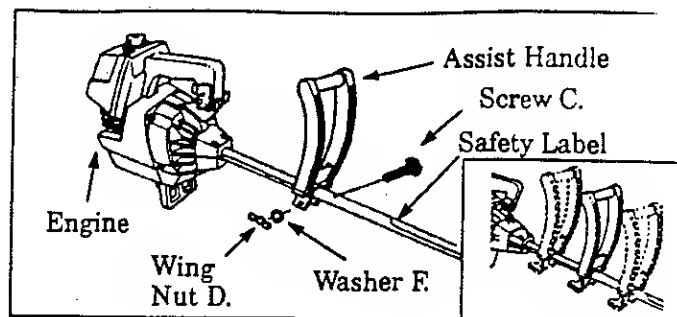

Figure 3
- Align the Assist Handle above the Safety Label and below the Engine. Figure 3.
- Insert the Assist Handle Screw "C." through the new hole in the Assist Handle. Figure 3.
CAUTION: When adjusting the Assist Handle for comfort, be sure that the Assist Handle remains between the Engine and the Safety Label on Drive Shaft Housing. Figure 3.
- Adjust Assist Handle up or down the Shaft Housing for comfort. Figure 3 (inset).